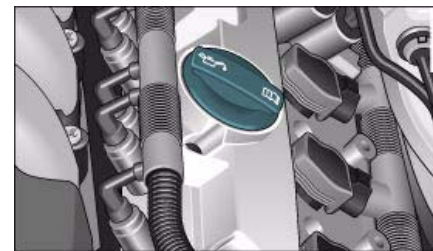

Fig. 226 Engine
- Unscrew cap  from oil filler opening ⇒ *page 234*, fig. 226.